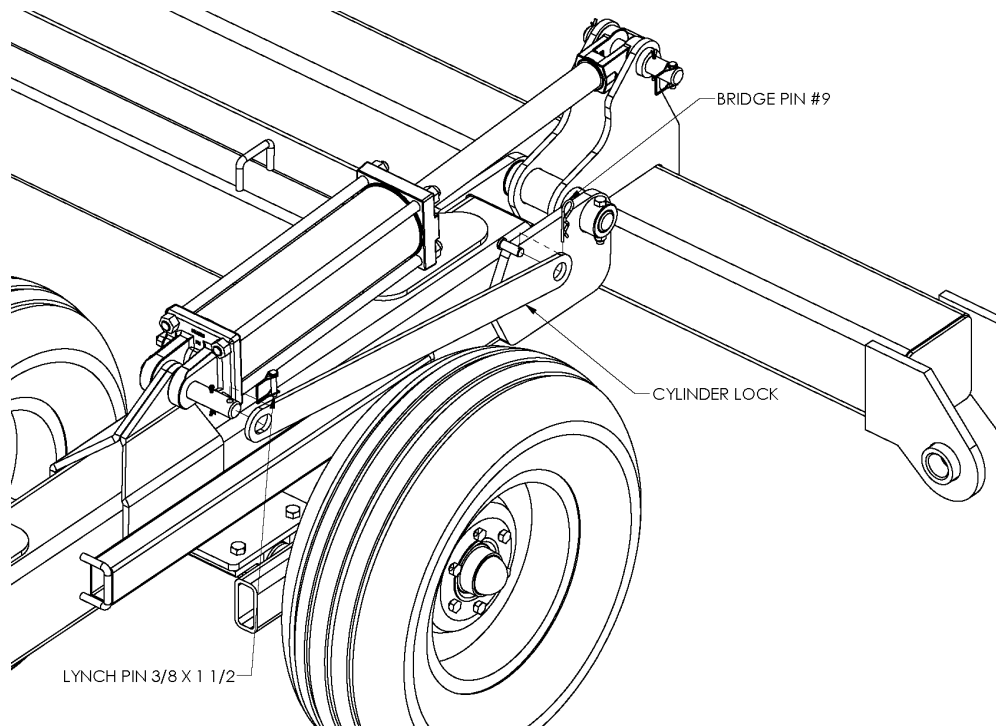

Figure 5
1. Move the cylinder lock bars to storage position. See Figure 5 on page 18.
1. Attach the slotted end of the cylinder lock bars to the base end cylinder pins using the 3/8 x 1 1/2 lynch pins. Attach the other end of the cylinder lock bars to the pins attached to the main frame using the number 9 bridge pin. See Figure 5.